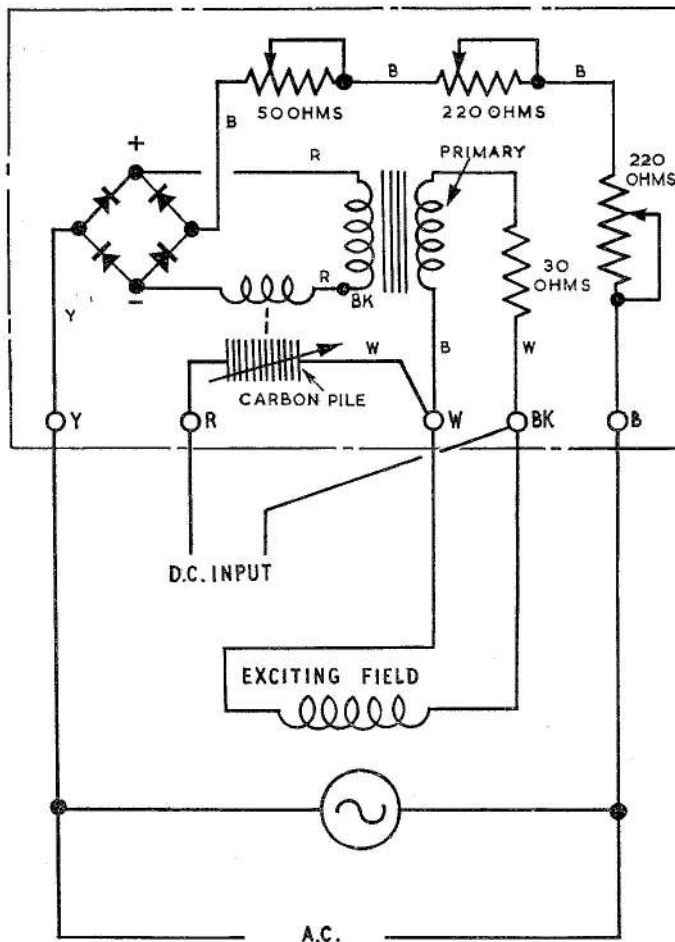

Fig. 2. Circuit diagram
3. A composite carbon pile is fitted and consists of a minimum of 50 washers 0.5 mm. thick and 26 washers 3 mm. thick. The pile elements are capable of dissipating 160 watts continuously. A circuit diagram is given in fig. 2.
4. The regulator should be mounted in an upright position with the pile tube horizontal. The connections are indicated in the circuit diagram in fig. 2, but details of an individual installation should be verified from the electrical section of the appropriate Aircraft Handbook. Care must be taken to ensure that nothing is done to prevent free circulation of air around the regulator.